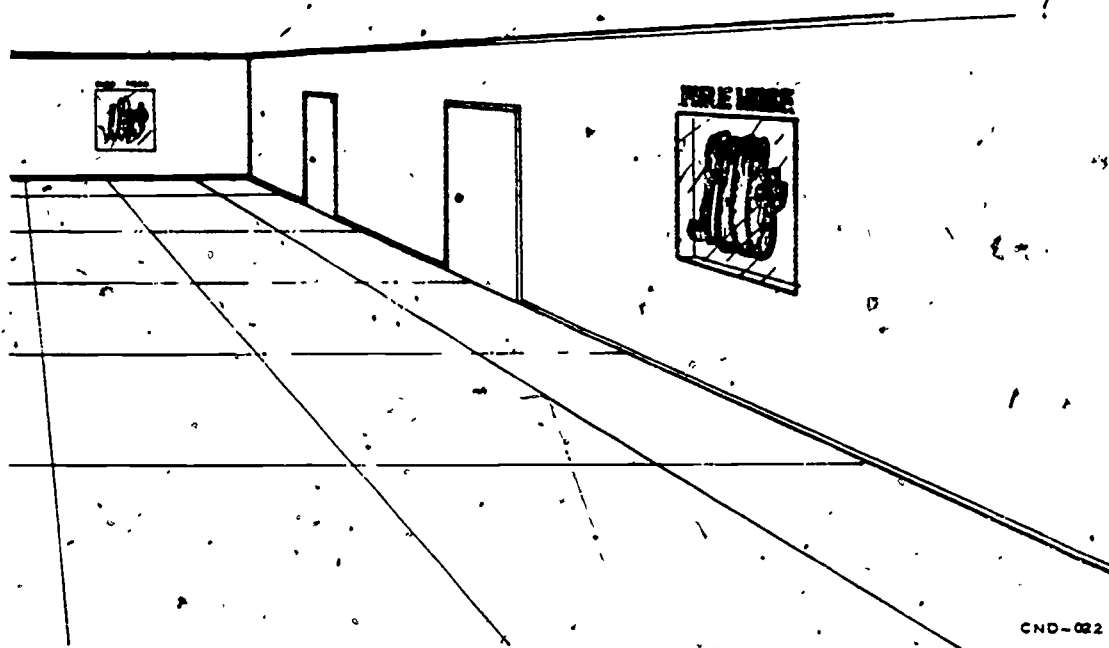

Figure 7-9. Standpipe in building.
**Standpipe systems.** Standpipes, as shown in figure 7-9, provide a constant source of water for first aid firefighting. They are designed to be used at all floor levels by either building occupants or the fire department, but should not be relied upon for total extinguishment of a fire. They improve the protection of excessively high buildings and poorly accessible areas.